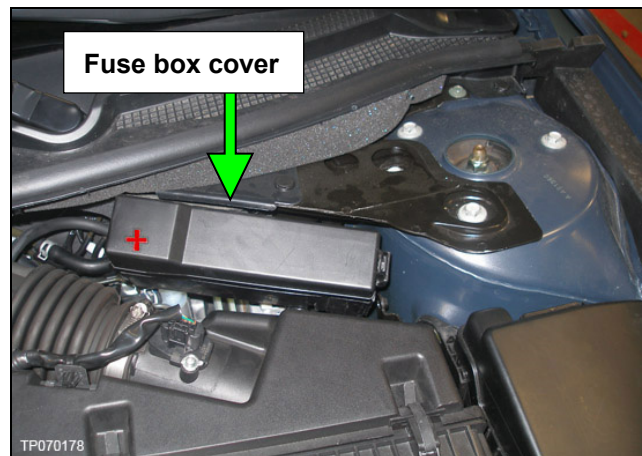

Figure 4
1. Remove the fuse box cover at the LH rear of the engine compartment. See Figure 4.